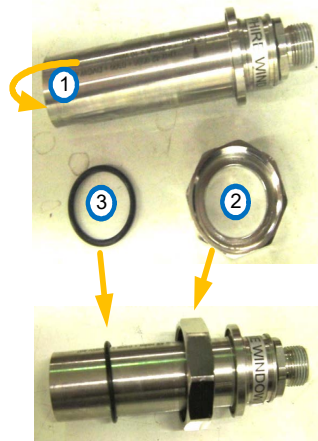

Figure 10-13: Sensor, nut and washer
- Step 1.** Check the sensor's lens (1 in Figure 10-13) for condensation. If present, using a dry lens cloth, dry the lens thoroughly. Be sure that the lens is completely dry before it is returned to its place..
- Step 2.** Ensure that threaded locking nut (2) and washer (3) are in place
- Step 5.** To verify that the Sensor readings are stable, observe the reading for a few seconds to see that they remain the same numbers. For the UVIS sensor, see the **UVIS mA** column above. For the UVT Intensity sensor, see the **UVTS mA** column above. If the numbers are not stable, unscrew and remove the two breather caps on each side of the lamp. (See Figure 10-13, on page 10-135.)